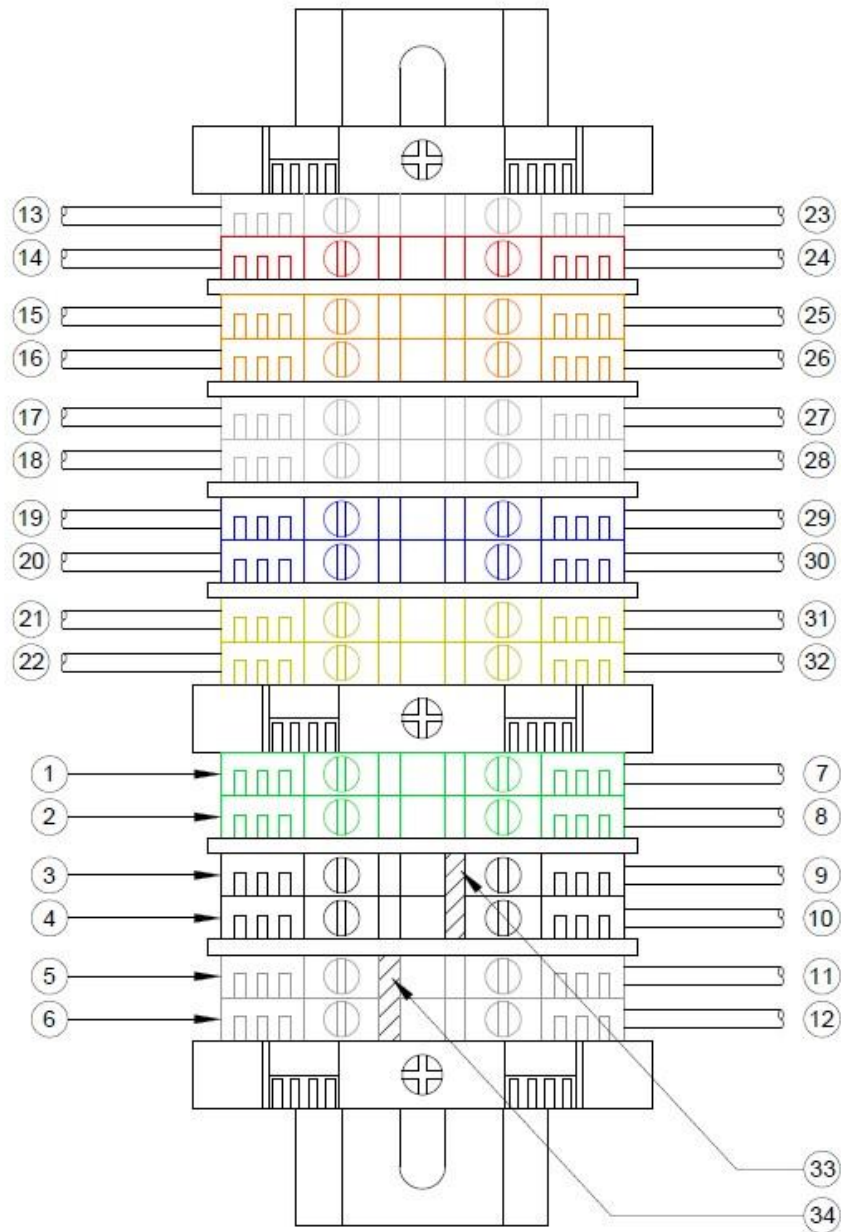
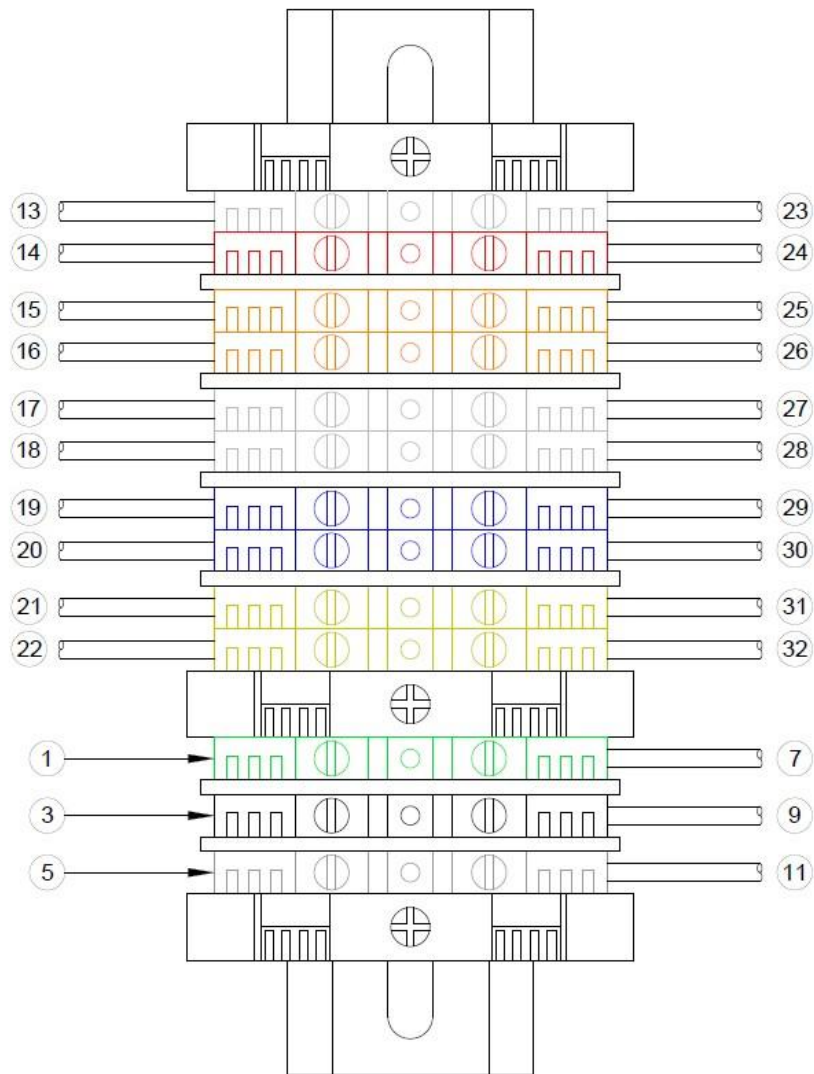

Figure 7a – Diagram –
Figure 7b – Diagram –
1.10.4.2. Terminal Strip and Control Panel. See Figure 7a and Figure 7b for information on connection to the terminal strip in the upper enclosure. Use Section 5 – Potter manual 5403650 to guide the installation of connections to the control panel. Terminals for 110VAC power accept qty. (1) 10 ga. max. conductor. NOTE: All conductors used for field wiring must comply with NFPA 70 – National Electrical Code, and control panel manufacturer's instructions (see Section 5). See Section 5 for information on power-limited conductor runs.
Legend for Figure 7a
Legend for Figure 7b